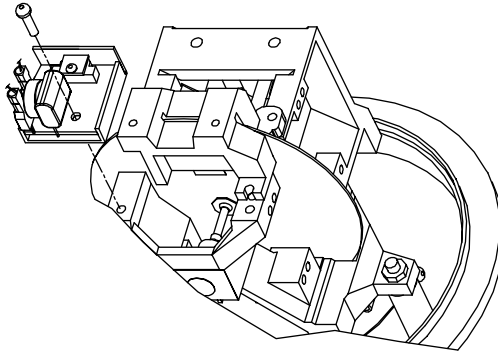

Figure 6. Attaching WOPI to Meter
| Figure 6. Attaching WOPI to Meter | 6 |
8. Use the 6-40 x 1/2 inch screw to attach the WOPI to the meter. See Figure 6.